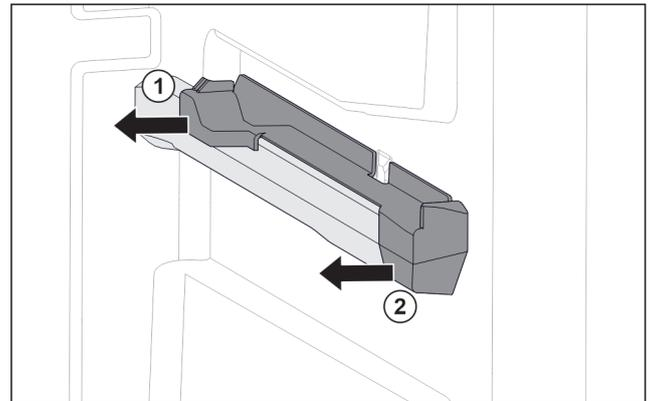

Fig. 114 Attachment on the right moulded rib
- ▶ Pull off attachment at the back sideways. Fig. 114 (1)
- ▶ Pull off attachment at the front sideways. Fig. 114 (2)